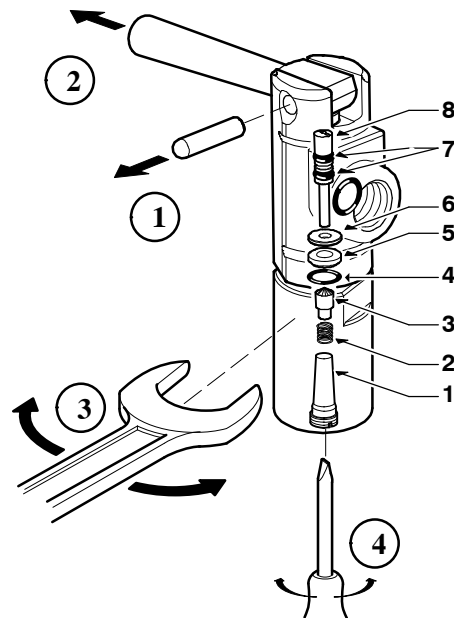

Fig. 38 Filling valve on external filling panel
The sintered metal filter (1, Fig. 38) is situated in the lower part of the filling valves. It separates small particles from the compressed air. We recommend that you clean it regularly. To do so, unscrew T connection on the filling valve. Remove sintered metal filter with a screwdriver (step 4, Fig. 38) and clean filter in warm soapy water. Dry the filter and replace it. Tighten properly with the screwdriver. Replace the sintered metal filter if there are signs of damage.
- First of all remove pin and lever (steps 1 and 2, Fig. 38)
- Remove and replace the sealing cone (3) in the lower part. Then remove and replace O-ring (4), valve seat (5) and piston (8) in the upper part. Ensure parts are correctly replaced.